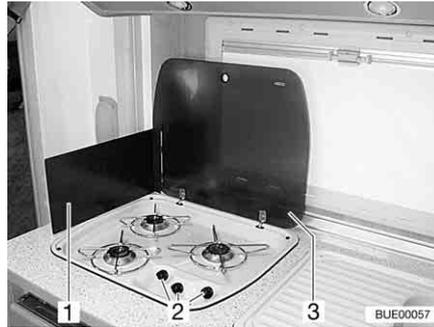

Fig. 199 Gas cooker
- Open the gas cooker lid (Fig. 199,3).
- Fold out or set up the flame protection (Fig. 199,1), depending on the model.
- Turn the control knob (Fig. 199,2) on the burner you wish to use to the ignition position (large flame).